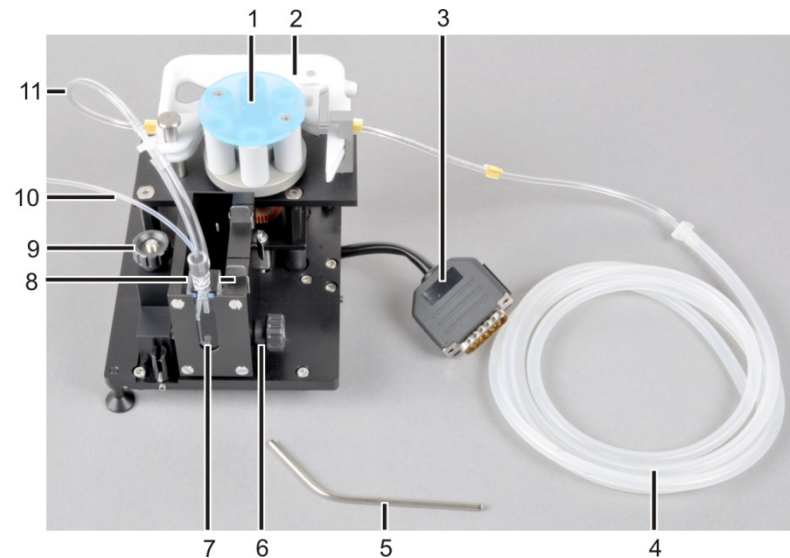

Fig. 69 Layout of the cassette sipper system
6. Insert the slider with the leaf spring (8 in Fig. 69) at the location corresponding to the cell pathlength.
8. Attach the hose cassette to the pump head (Fig. 69).
9. Using the eccentric lever press the pump hose against the rollers until it is squeezed completely. (2 in Fig. 69 p. 90)
- Consecutively turn the screws for vertical and horizontal adjustment (9 and 12 in Fig. 69) until the light hits the paper strip at the center.